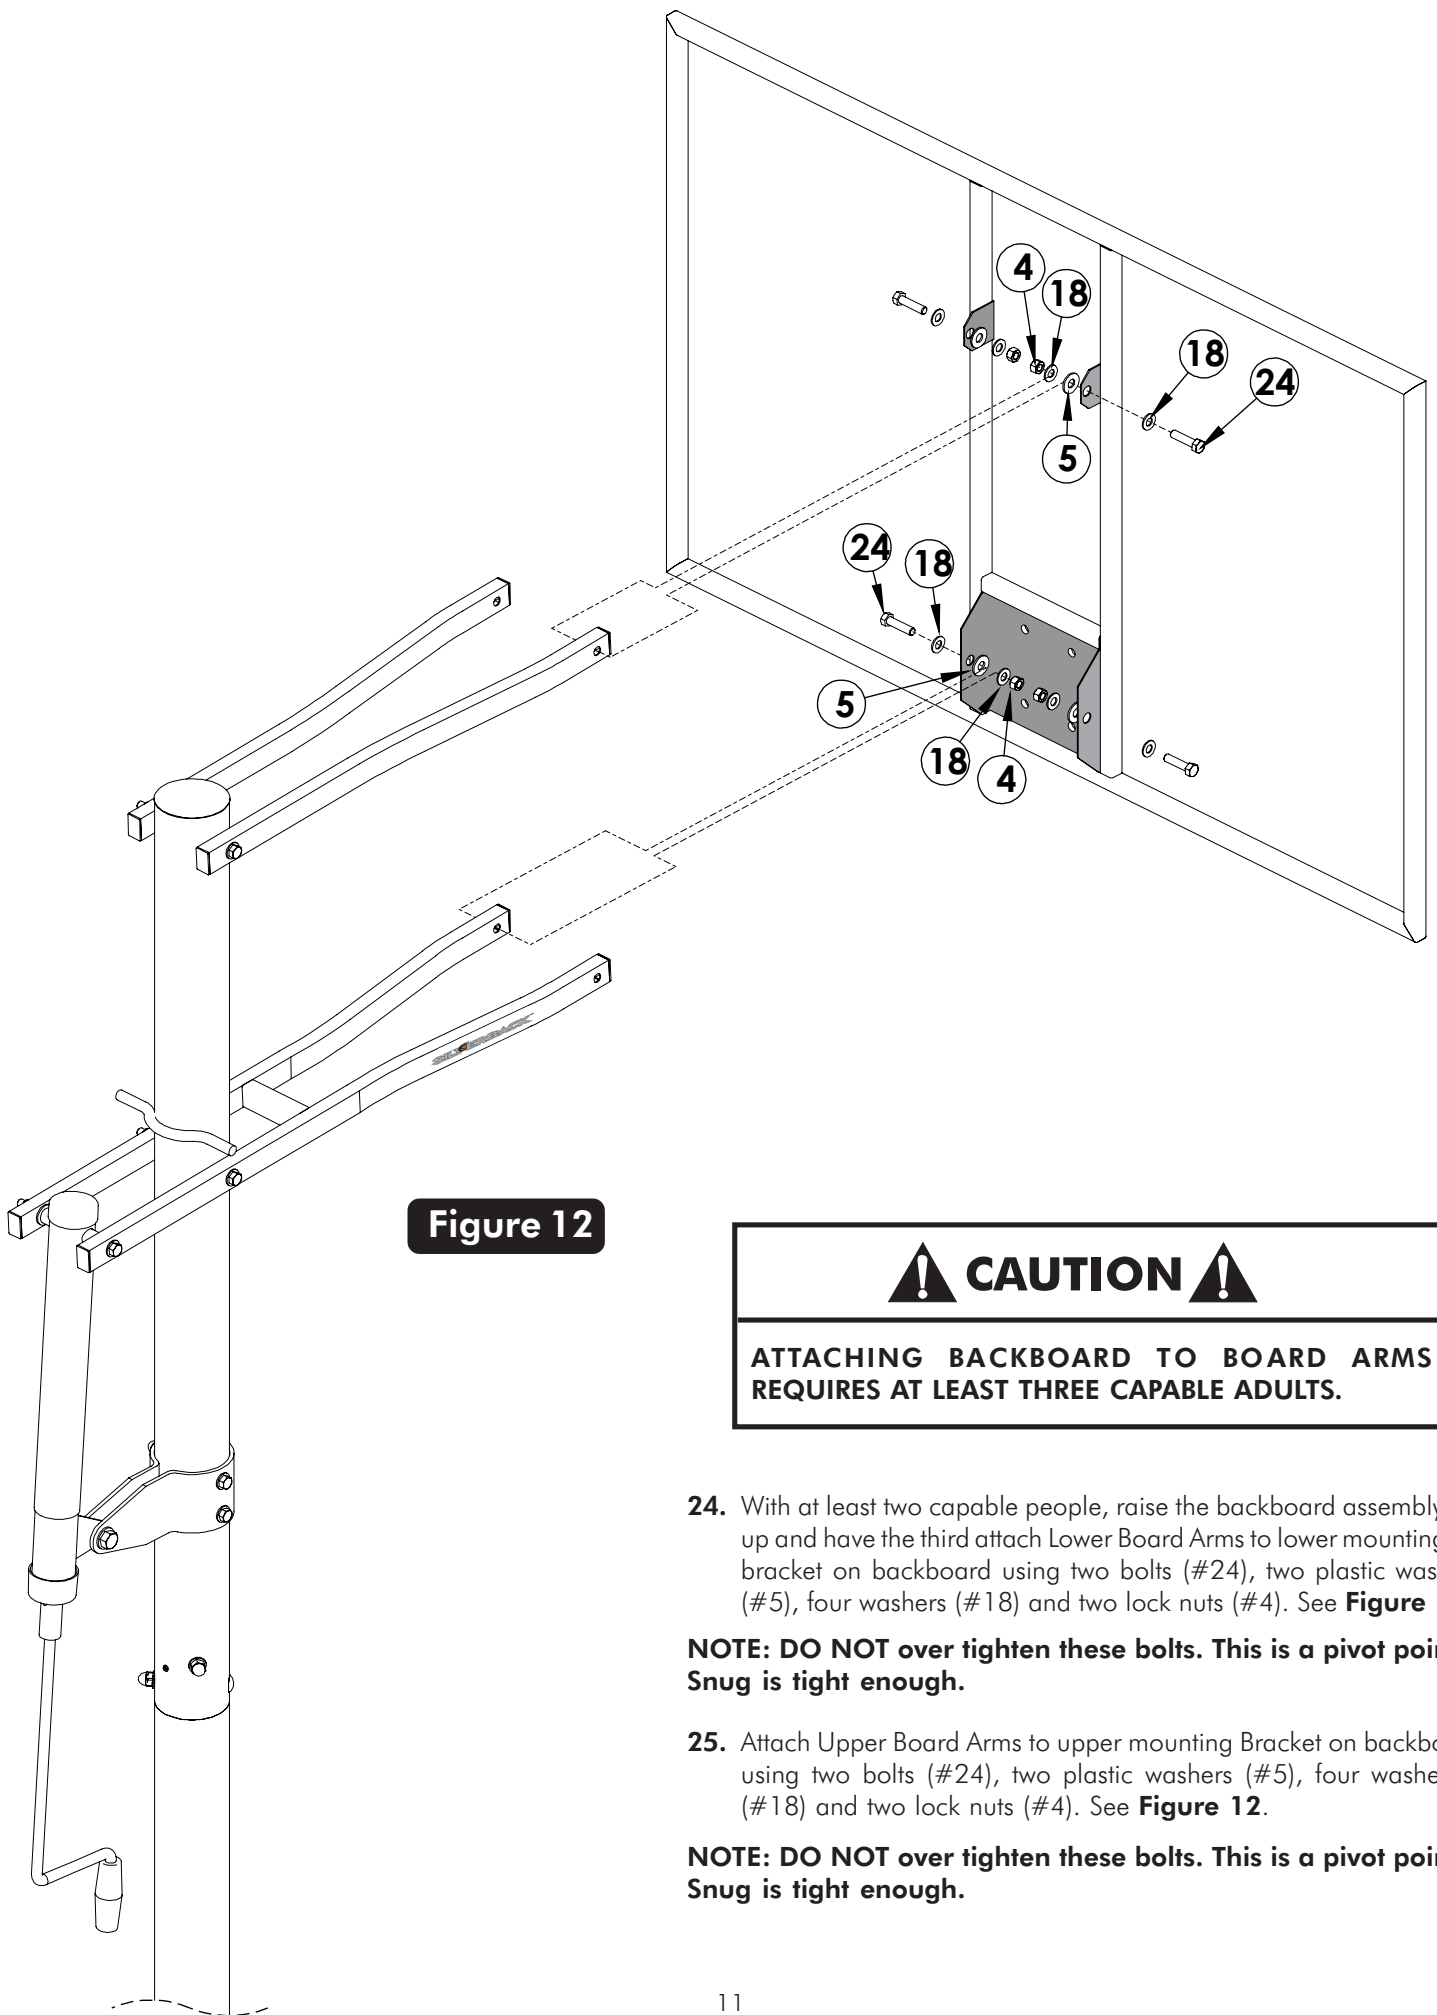

Figure 12
- 24.** With at least two capable people, raise the backboard assembly up and have the third attach Lower Board Arms to lower mounting bracket on backboard using two bolts (#24), two plastic washers (#5), four washers (#18) and two lock nuts (#4). See **Figure 12**.
- 25.** Attach Upper Board Arms to upper mounting Bracket on backboard using two bolts (#24), two plastic washers (#5), four washers (#18) and two lock nuts (#4). See **Figure 12**.